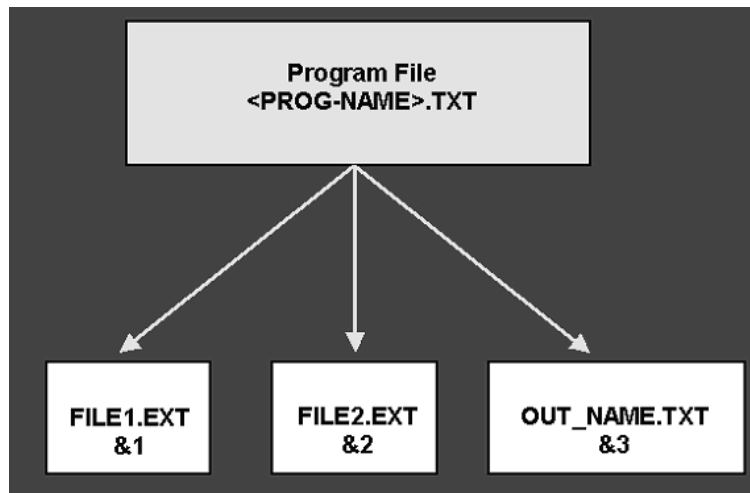

Figure 3-1 Program File
- 5 You should see the contents of the OUT\_NAME.TXT file as in Fig. 3-1.